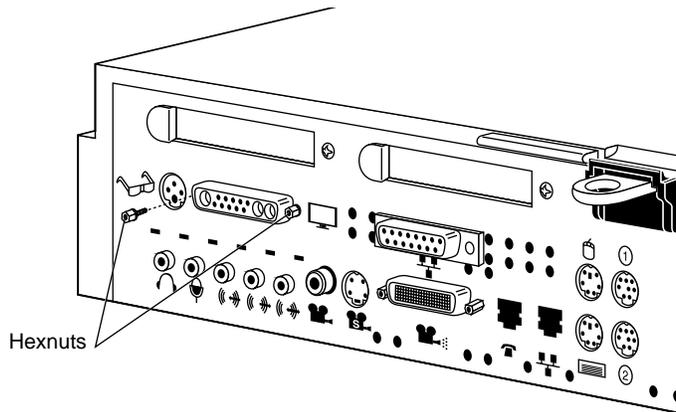

Figure 1-24 Replacing the Hexnut Screws on the Rear
5. Insert the two hexnut screws on either side of the graphics board's I/O connector on the rear of the chassis, as shown in Figure 1-24. Use the open-ended wrench provided with this upgrade to tighten the two hexnut screws.